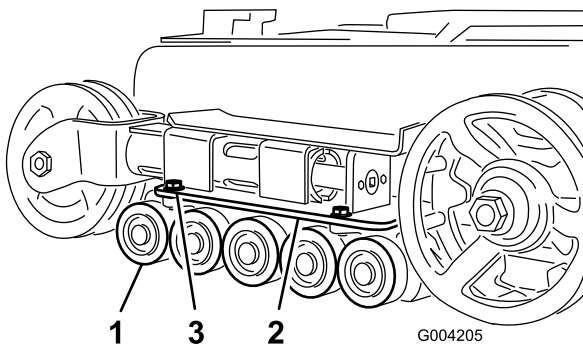

Figure 49
2. Remove the 4 bolts securing each lower track guide which contains the road wheels, and remove them (Figure 49).